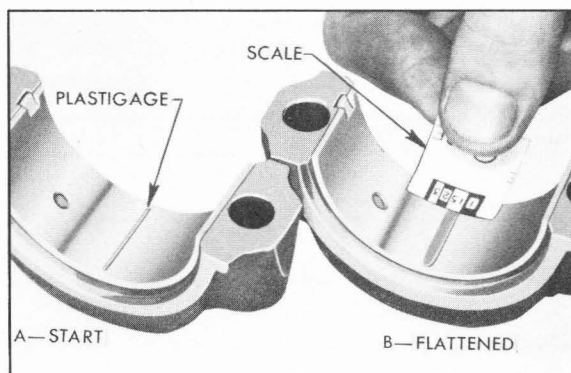

Figure 2-30—Checking Bearing Clearance with Plastigage
3. Place a piece of Plastigage lengthwise along the bottom center of the lower bearing shell (fig. 2-30, view A), then install cap. Tighten bolts to 40-50 ft. lbs. torque on *Series 40-50* engine, or to 60-65 ft. lbs. torque on *Series 70* engine. **NOTE:** *A ridge formed on edge of cap and a boss formed on web of rod*
6. Using the scale printed on the Plastigage envelope, measure the width of the flattened Plastigage at its widest point. The number within the graduation which most closely corresponds to the width of Plastigage indicates the bearing clearance in thousandths of an inch. See figure 2-30, view B.